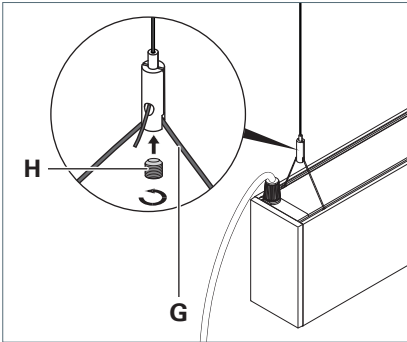

Fig. 22: Fastening the luminaire to the wire rope holder.
- ▶ Insert the wire rope **G** of the luminaire into the wire rope holder, see Fig. 22.